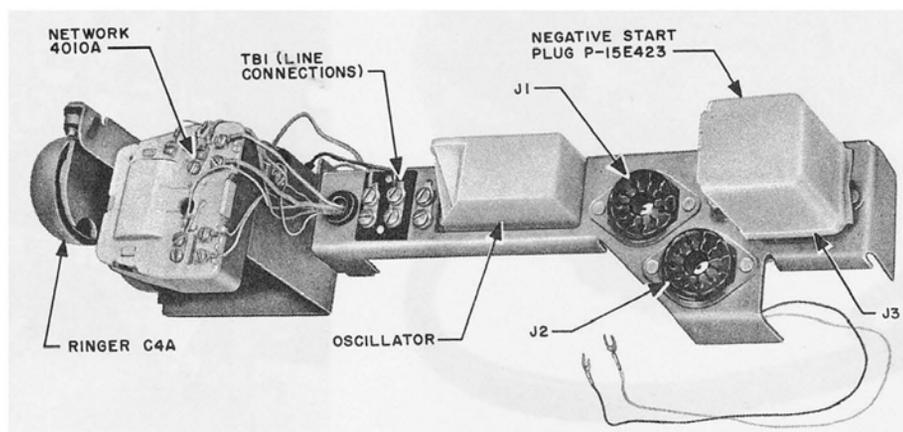

Fig. 6 – Chassis Assembly
3.03 The chassis assembly is equipped with three jacks (Fig. 6) which operate as follows: